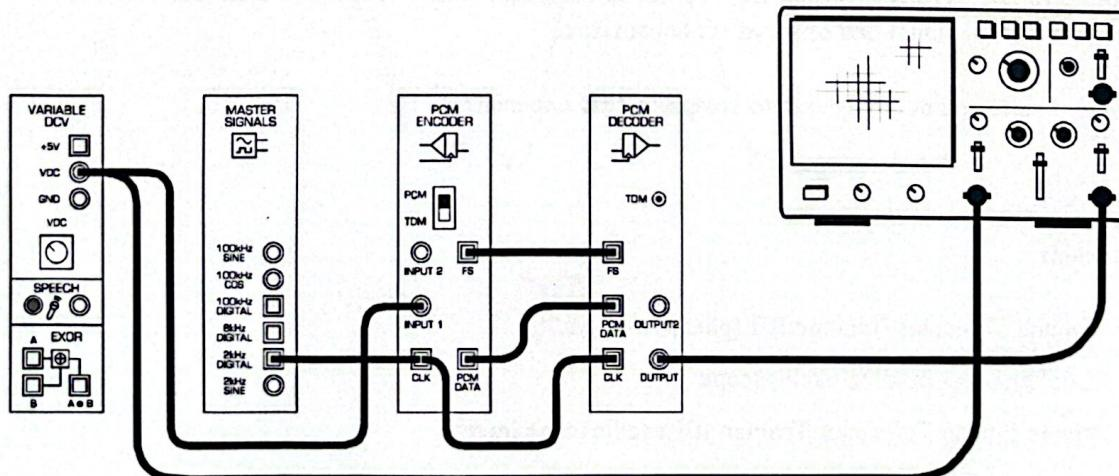

Figure 3
8. Connect the set-up shown in Figure 3 below.